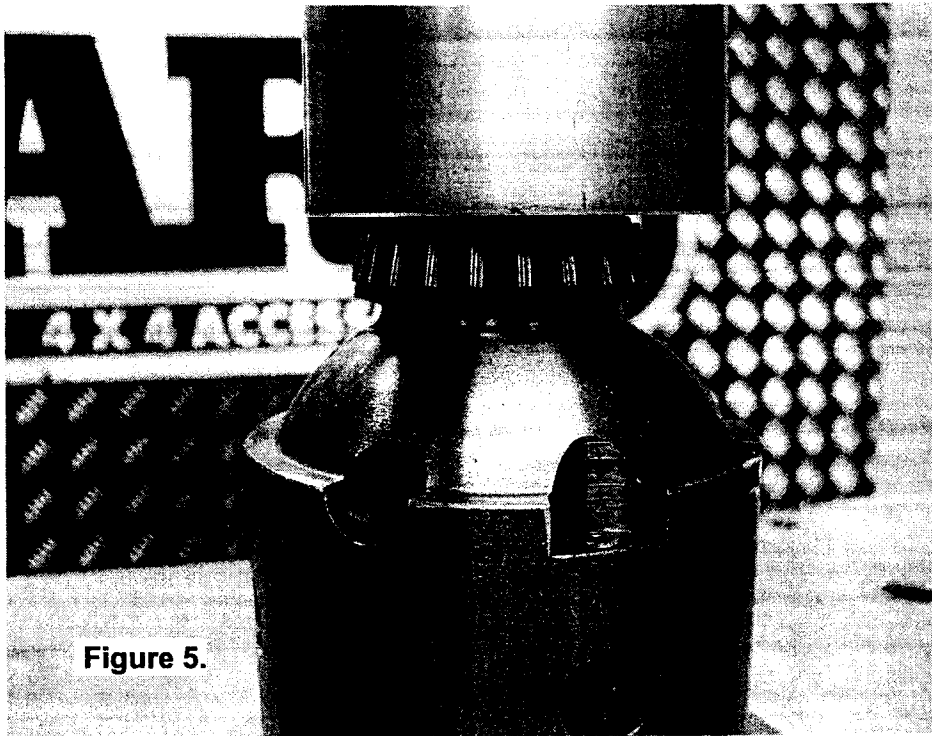

Figure 5.
- Using a bearing press or arbor press, press one of the original tapered roller bearing cones onto the bearing journal opposite to the ring gear flange of the differential carrier (As shown in Figure 5.) until the bearing seats firmly against the bearing journal shoulder.